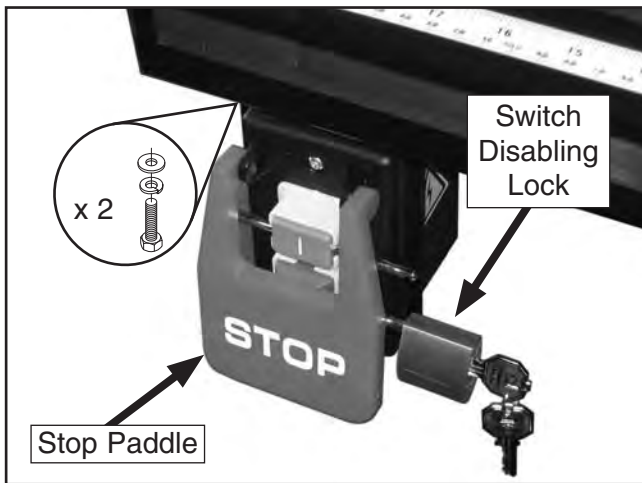

Figure 25. Switch installed.
21. Fasten the ON/OFF switch to the left end of the front rail with two M8-1.25 x 12 hex bolts, 8mm flat washers and 8mm lock washers, then insert the switch disabling lock, as shown in **Figure 25**.